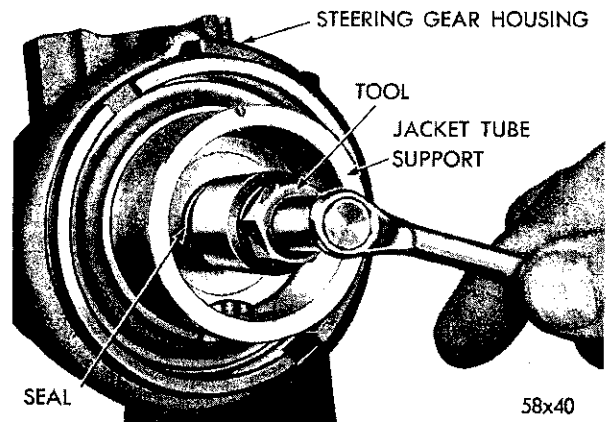

Fig. 16—Removing the Worm Shaft Upper Seal
(1) Remove the worm shaft upper seal with puller Tool C-3638 (Fig. 16).